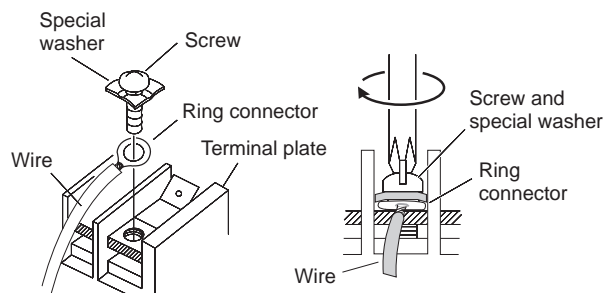

Fig. 31b
- (4) Place the ring connector wire, and replace and tighten the removed terminal screw using a screwdriver. (Fig. 31b)